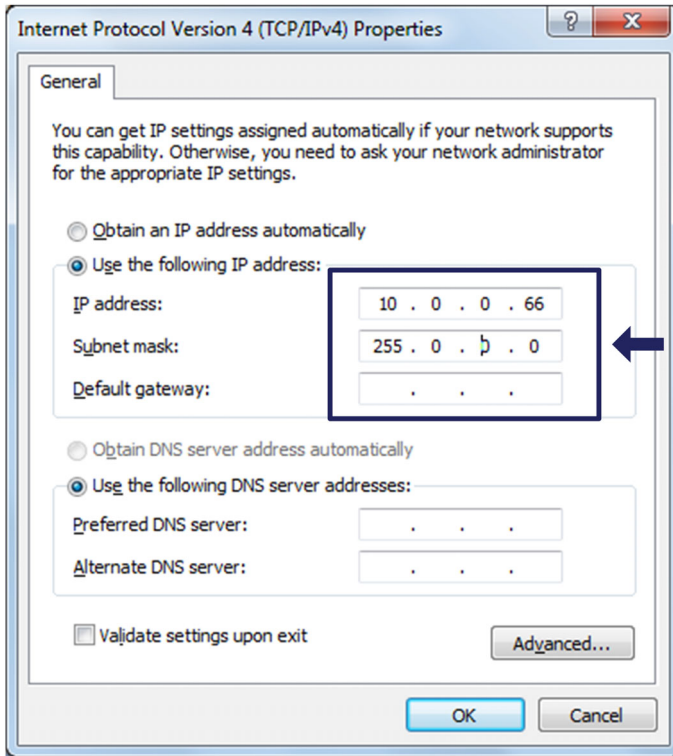

Fig. 3.9 Internet Protocol Version 4 Properties
- ▶ Set the IP address and the subnet mask as in Fig. 3.9.